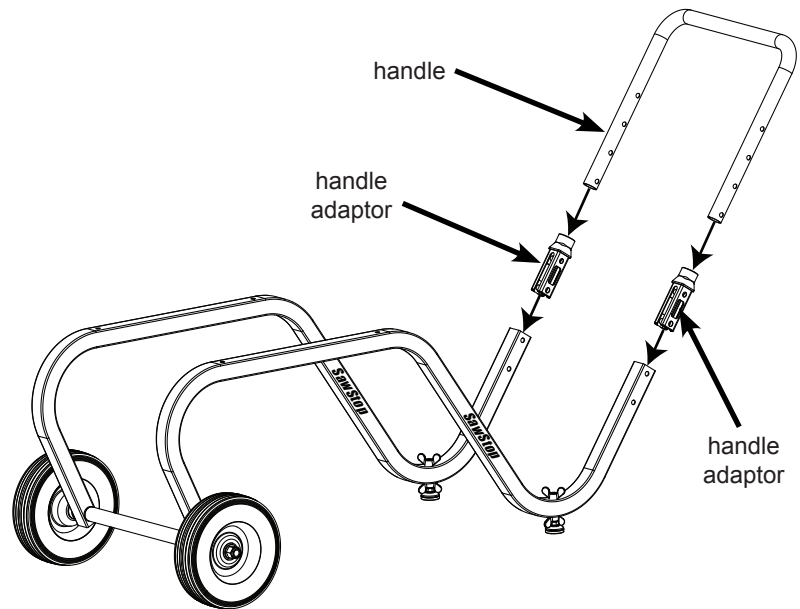

Fig. 8
- Insert one handle adaptor into the open end of each side frame, as shown in Fig. 8, making sure each adaptor is oriented so that its holes align with the holes in the side frame. Then insert the handle into the two adaptors until two of the holes in each end of the handle align with the holes in each side frame. Each end of the handle has four holes so the handle can be set at one of three different heights. Choose whichever height is most comfortable.